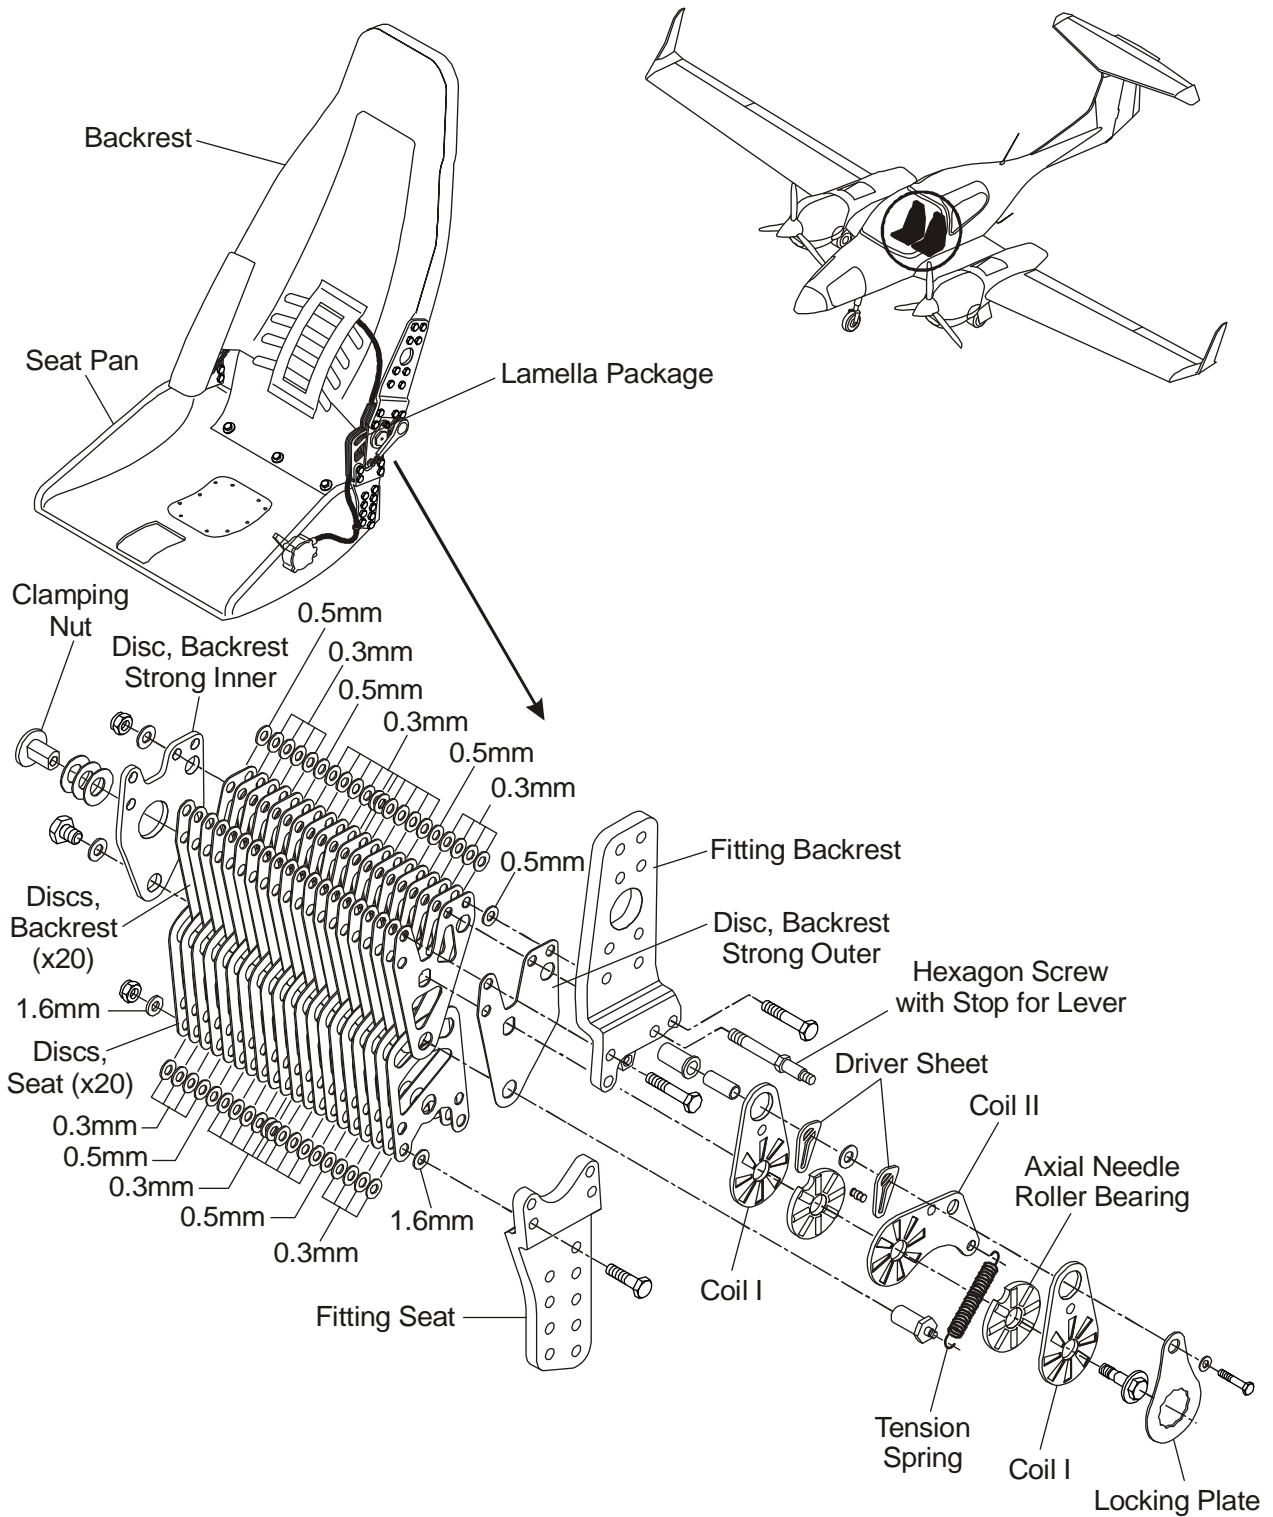

Figure 6: Adjustable Backrest Assembly (if OÄM 42-067 is installed)
(1)	Arrange the seat fitting and the backrest fitting and place the 7 hexagon screws (M6 x 32) and a hexagon screw with stop for lever as shown in Figure 6. Use some adequate bars to put under the fittings.
(2)	4 Washers	1.6 mm	Disc, Backrest Strong Outer	1.6 mm
(3)	Stick the bolt (10 mm) through the outer backrest disc.
(4)	Lamella	0.3 mm	4 Washers	0.5 mm
(5)	4 Washers	0.3 mm	Lamella	0.3 mm	Repeat steps (5) and (6) four times.
(6)	Lamella	0.3 mm	4 Washers	0.3 mm
(7)	4 Washers	0.5 mm	Lamella	0.3 mm
(8)	Lamella	0.3 mm	4 Washers	0.5 mm
(9)	4 Washers	0.3 mm	Lamella	0.3 mm	Repeat steps (9) and (10) four times.
(10)	Lamella	0.3 mm	4 Washers	0.3 mm
(11)	4 Washers	2 x 0.3 mm	Lamella	0.3 mm